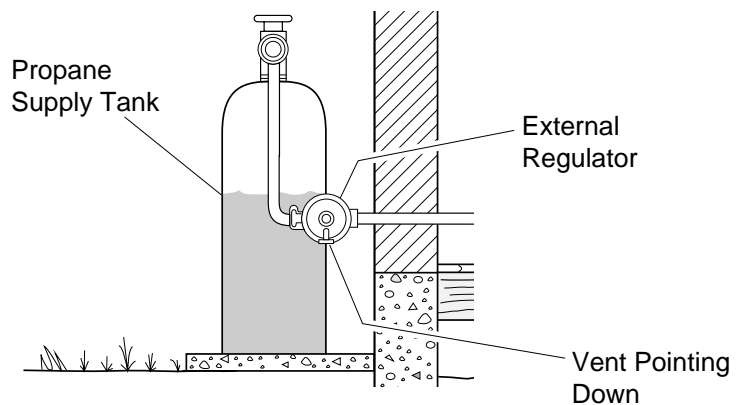

Figure 16 - External Regulator With Vent Pointing Down
- external regulator (supplied by installer, see Figure 16, page 16)
The installer must supply an external regulator. The external regulator will reduce incoming gas pressure. You must reduce incoming gas pressure to between 11 and 14 inches of water. If you do not reduce incoming gas pressure, heater regulator damage could occur. Install external regulator with the vent pointing down as shown in Figure 16. Pointing the vent down protects it from freezing rain or sleet.